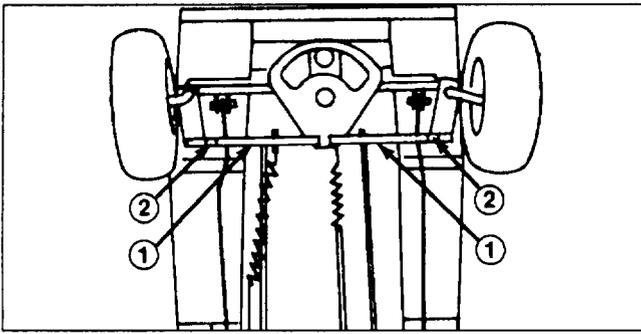

Figure 29
7. To align front wheels, loosen jamnut and turn tie rods until centerline distance across front of wheels is .06 inch (1.5 mm) to .25 inch (6.3 mm) less than centerline distance across rear of front wheels (Fig. 29).